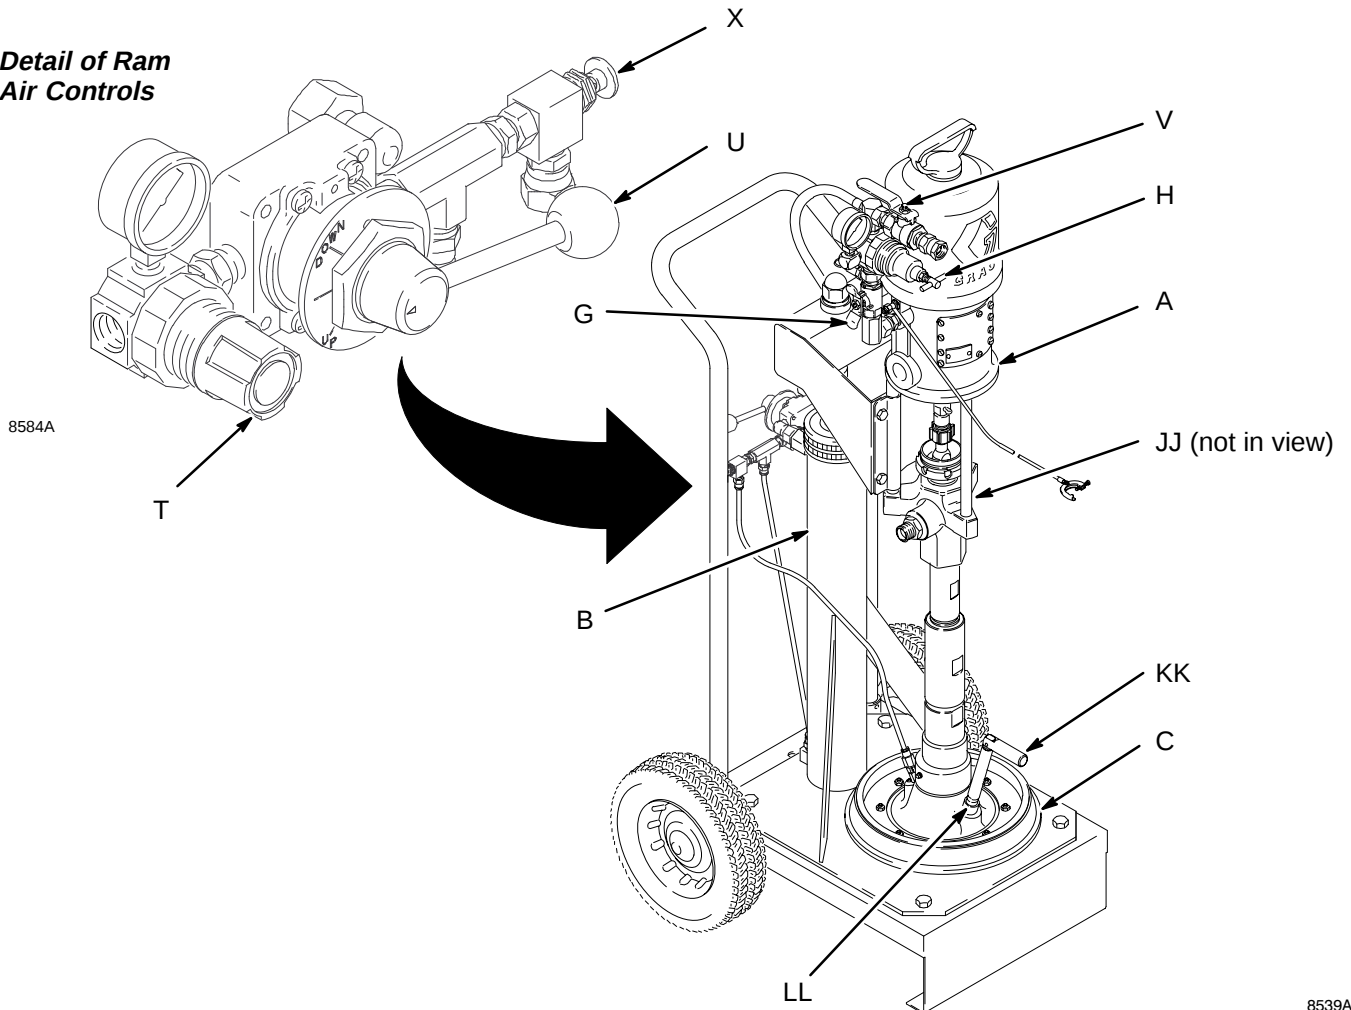

Fig. 3
3. Shut off the red-handled main air bleed valve (V, required in your system). Set the ram director valve (U) to DOWN. The ram will slowly drop.
7. Open the drain valve (required in your system) and/or the pump bleeder valve (JJ), having a container ready to catch the drainage. See Fig. 3.
1. Refer to Fig. 3. Close all air regulators and air valves.
2. Open the red-handled main air bleed valve (V) and set the ram air regulator (T) to 0.28 MPa, 2.8 bar (40 psi). Pull up on the director valve (U) handle so the arrow points to UP, and let the ram rise to its full height.
3. Set a full 19 liter (5 gal.) pail of fluid on the ram base, slide it back against the ram tube and supports, and center it under the wiper plate (C). To prevent air from being trapped under the wiper plate, scoop fluid from the center of the pail to the sides, to make the surface concave.
5. Adjust the pail to be sure it is aligned with the wiper plate, and remove the vent handle (KK) from the wiper plate (C) to open the vent hole (LL).
6. Set the director valve to DOWN and continue to lower the ram until fluid appears at the wiper plate vent hole (LL). Set the director valve to neutral, reinstall the vent handle and tighten securely. See Fig. 3.
1. Be sure the pump air regulator (H) is closed. Then set the ram air regulator (T) to about 0.21 MPa, 2.1 bar (30 psi). Set the director valve (U) to DOWN. See Fig. 3.
3. Keep the director valve (U) set to DOWN while the pump is operating.